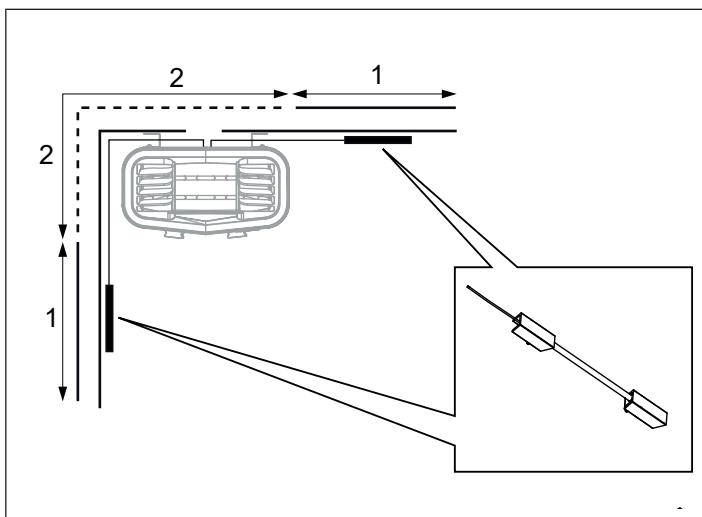

Figure 11: Positioning of temperature sensor
7. For positioning of temperature sensor holder on wall (see Figure 11). Choose position 1 if possible. Position 2 will reduce the sauna temperature.